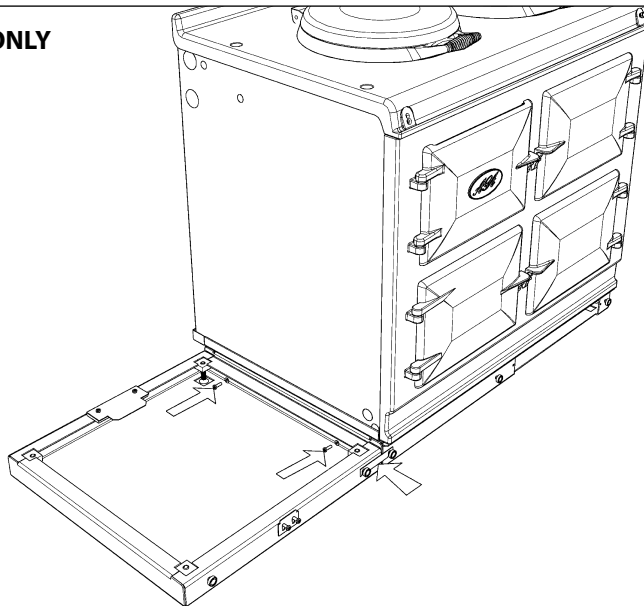

Fig. 10.5
9. Attach Module plinth to the AGA Total/Dual Control plinth using 2x M6 screws and washers provided (See **Fig. 10.5** or **Fig. 10.6**). Slide front jointing bracket into place over two adjacent magnets, locking the two appliances together.